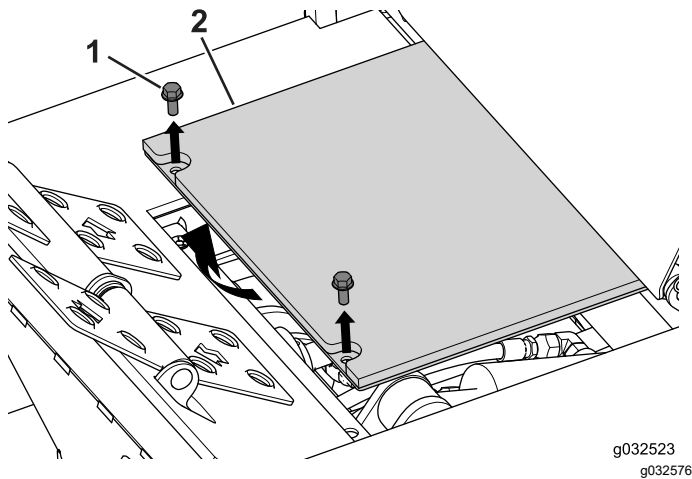

Figure 78
1. Remove the 2 bolts that secure the operator deck to the machine to access the PTO connection (Figure 78).
5. Use the 2 bolts (5/16 x 3/4 inch) you removed earlier to secure the operator deck to the winter frame (Figure 78).